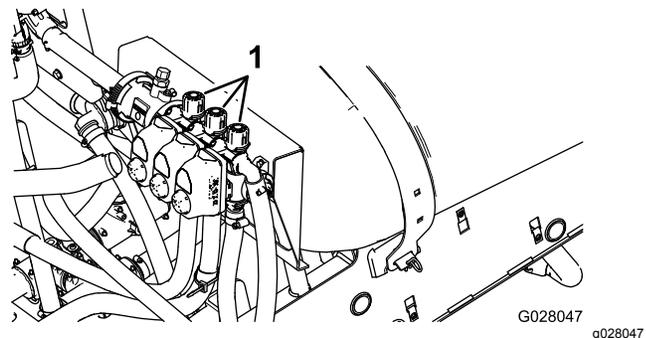

Figure 29
11. Turn off the left boom and adjust the boom-bypass knob (Figure 29) until the pressure reading is at the previously adjusted level (typically 2.75 bar or 40 psi).
13. Adjust the right boom-bypass knob (Figure 29) until the pressure reading is at the previously adjusted level (typically 2.75 bar or 40 psi).
15. Adjust the center boom-bypass knob (Figure 29) until the pressure reading is at the previously adjusted level (typically 2.75 bar or 40 psi).